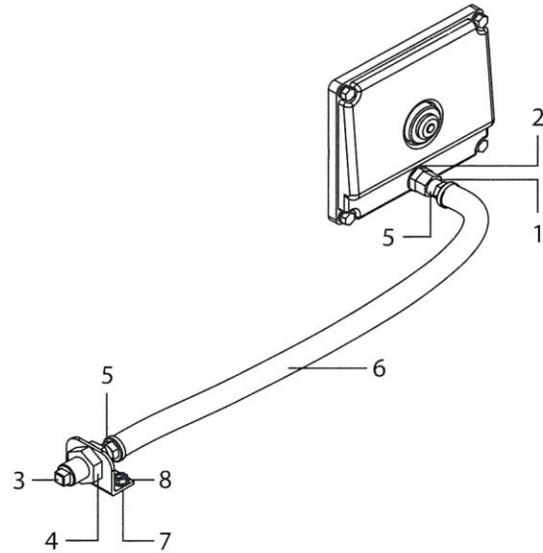

Figure 4
3. Install ¼" BSP fitting (Figure 4, item 1) with o-ring (2) into rear cover of pump.
4. Attach hose barbs (5) to each end of ⅜" hose (6).
5. Thread one end of hose (6) into fitting (1) of rear cover.
6. Remove nut from ¼" union fitting (4).
7. Thread in hose (6) with barb end into large end of union fitting (4).
8. Mount bracket (7) with screws (8) into desired position to maximize drainage.
9. Install hose assembly with union fitting end through mounting bracket (7) or panel (Bulkhead hole is .78" diameter).
10. Reinstall nut onto threads of union fitting (4) and tighten. NOTE: Centerline to centerline dimension for bracket (7) hole is 1.50", drill two - .209 diameter holes.
11. Thread in square end plug (3) into threaded end of union fitting (4).